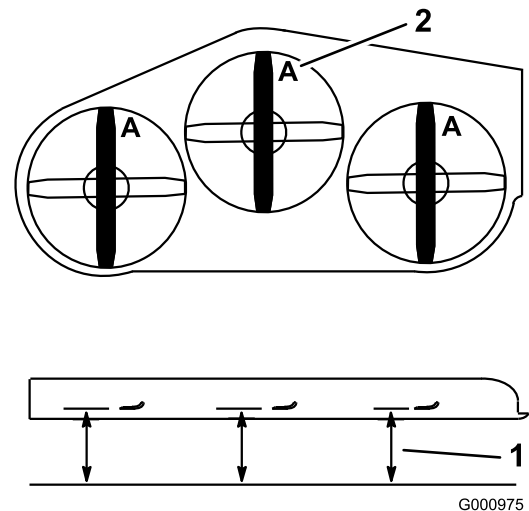

Figure 80
2. Measure from a level surface to the cutting edge, position A, of the blades (Figure 80).